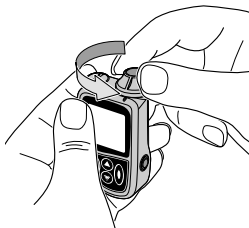

Figure 5
1. Turn the cartridge cap counter-clockwise (left) approximately $\frac{1}{4}$ turn and remove it from the pump (see Figure 5). If required, remove the used cartridge (you may get the "Cartridge Removed" alert; press OK). **NOTE:** turning the cartridge cap may also turn the cartridge, so it may already be disconnected from the pushrod when the cap is removed. If not, turn the cartridge $\frac{1}{4}$ turn to the left to disconnect it from the pushrod.